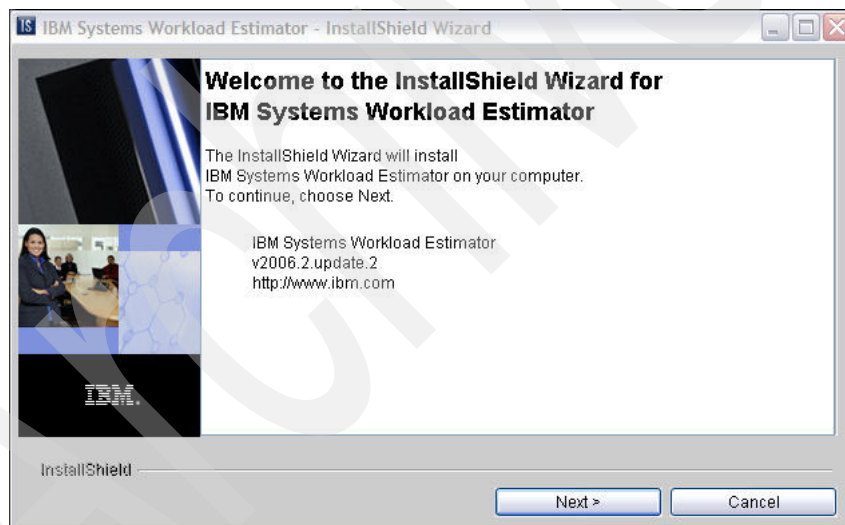

Figure B-11 Workload Estimator install welcome screen
8. Once initialization is complete, the WLE Welcome screen displays, as shown in Figure B-11. Click **Next** to continue.